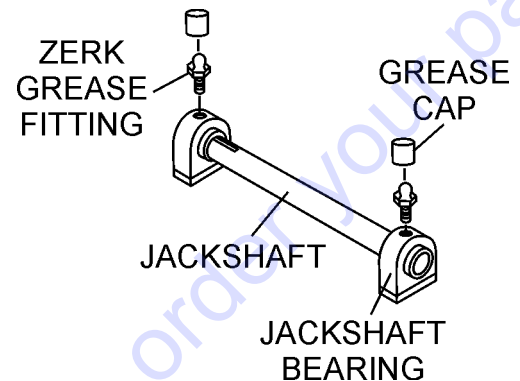

Figure 28. Zerk Fittings Lubrication
There are two (2) grease points (Figure 28) for the MP1 **gasoline** model saw. Use only Premium Lithium 12 based Grease, conforming to NLG1 Grade #2 consistency. Grease **daily**.